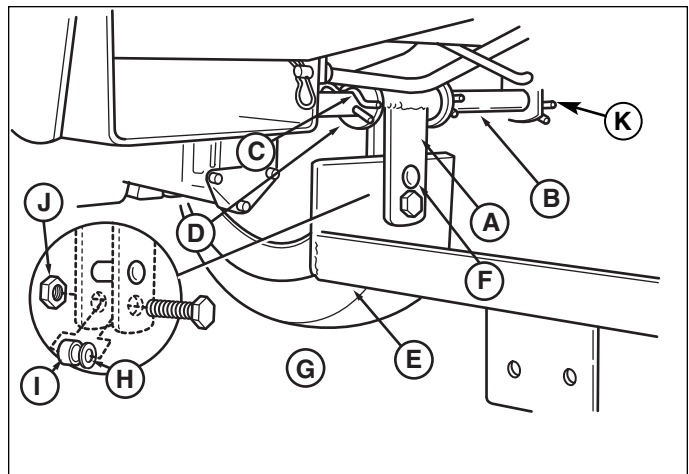

Figure 14. Installing Hitch to Rear Bracket
Note that the rear bracket (A, Figure 14) is mounted using the lift lever rod (B). After installation, the lift lever rod assy. can be removed by pivoting the lift lever fully forward until it is parallel to the ground, and sliding it out of the quadrant
- See Figure 14. Slide the rear bracket (A), and washers (D), onto the lift lever shaft, and secure with the hairpin clips (C).
- See Figure 14. Position the rear plate of the hitch assembly between the hanger tabs on the rear bracket, and secure at the top mounting hole using the clevis pin (F), and hairpin clip (K).
- See Figure 14. Install the capscrew (G), spacers (H & I), and whizlock nut (J) in the lower mounting hole as shown, and tighten securely.